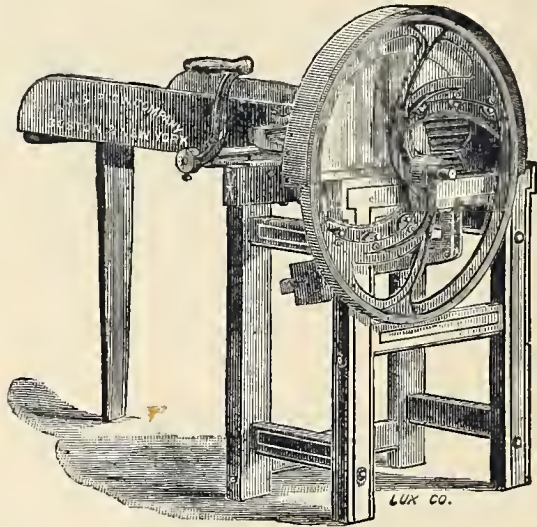
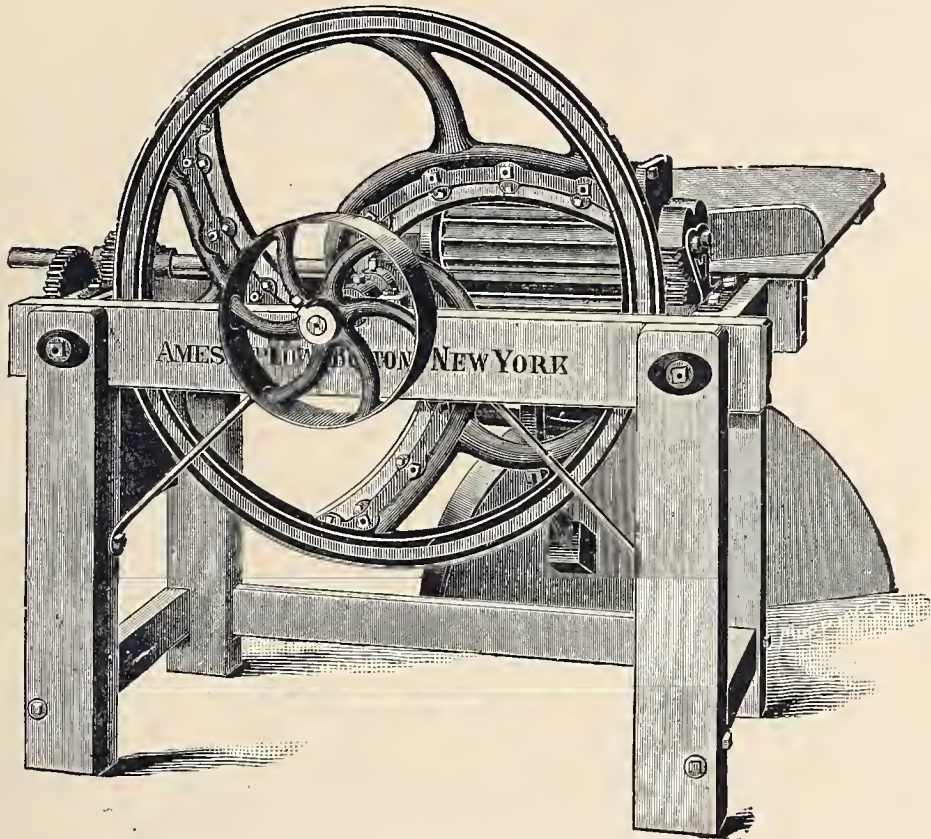

Fig. 435.—Doctor Bailey Ensilage-Cutter, 10 Inch.
Fig. 436. — Doctor Bailey Ensilage-Cutter, 16 Inch.
The New Doctor Bailey Cutter, for dry forage and ensilage, is represented by *Fig. 435* (ten inch) and *Fig. 436* (sixteen inch). It is vastly superior to any cutter in the market, not only for cutting ensilage crops, but also for hay and other
- 10-inch.**—For hand use; this *favorite* (see illustration *Fig. 435*) is as easy to operate as the 9-inch. One man can cut a large amount of fodder in a very short time; much used in large city stables as well as by farmers; can be arranged for operation by light power. Cuts four lengths, $\frac{3}{8}$, 1, $1\frac{1}{2}$ and $2\frac{3}{8}$ inches; weight 250 lbs.
16-inch.—This is the most salable size for ensilage; also gives perfect satisfaction on all kinds of dry fodder (see illustration *Fig. 436*). It has great capacity, and comparatively the power required is very small; can be successfully operated by two horse-power. This size is built even stronger than the 14-inch. Cuts ten lengths, $\frac{3}{8}$, $\frac{1}{2}$, $\frac{3}{4}$, $\frac{7}{8}$, 1, $1\frac{1}{4}$, $1\frac{1}{2}$, $1\frac{3}{4}$, 2 and $2\frac{3}{4}$ inches; weight, 750 lbs. Capacity, six to seven tons of green fodder, $\frac{3}{8}$ inch long, per hour.